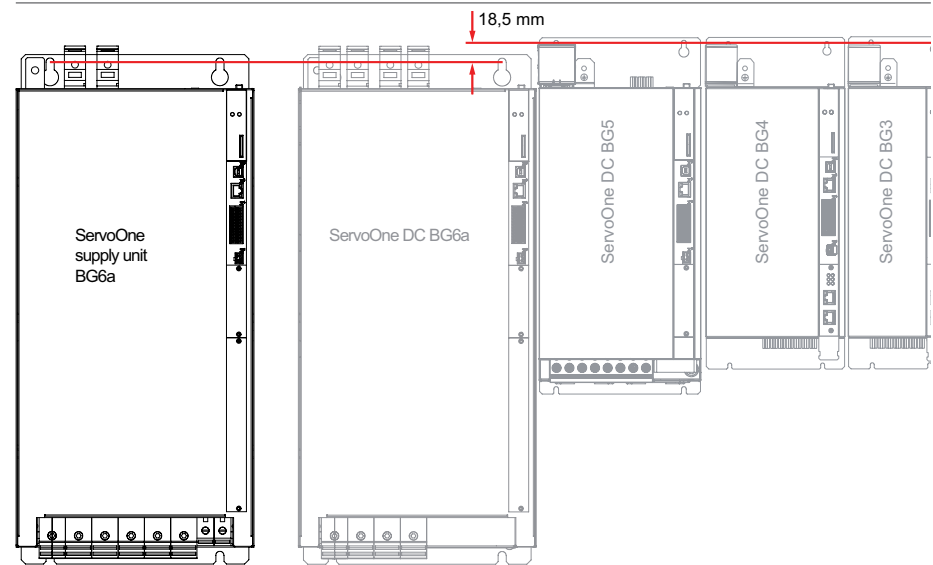

Figure 2.5 Butt-mounting, axis array, wall-mounted, with supply unit BG6a
- DC axis controller in Size BG6a (Figure 2.5 and Table 2.2)
- A vertical offset of 18.5 mm must be allowed between the top fixing screws for devices of sizes BG1 to BG5 and devices of size BG6a (see Figure 2.5 and Figure 2.9).